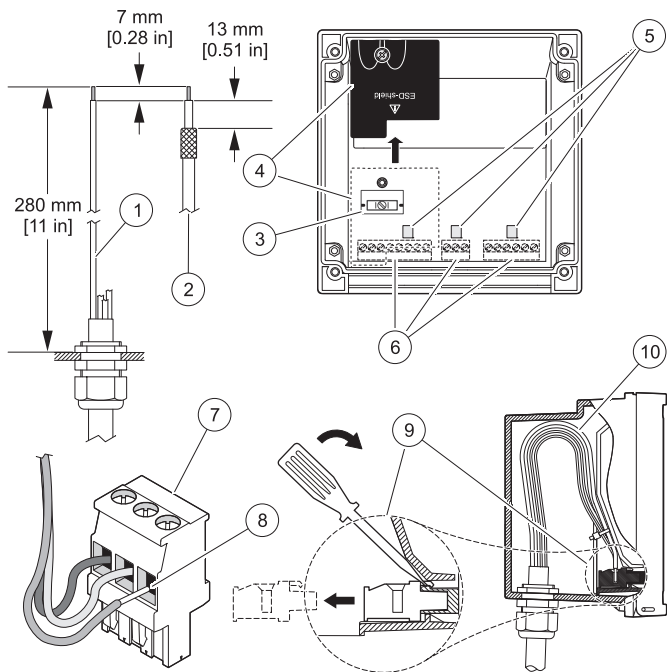

Figure 3 Wire preparation and insertion
2. Use the screwdriver as a lever to lift the terminal block off the connectors (see **Figure 3**).